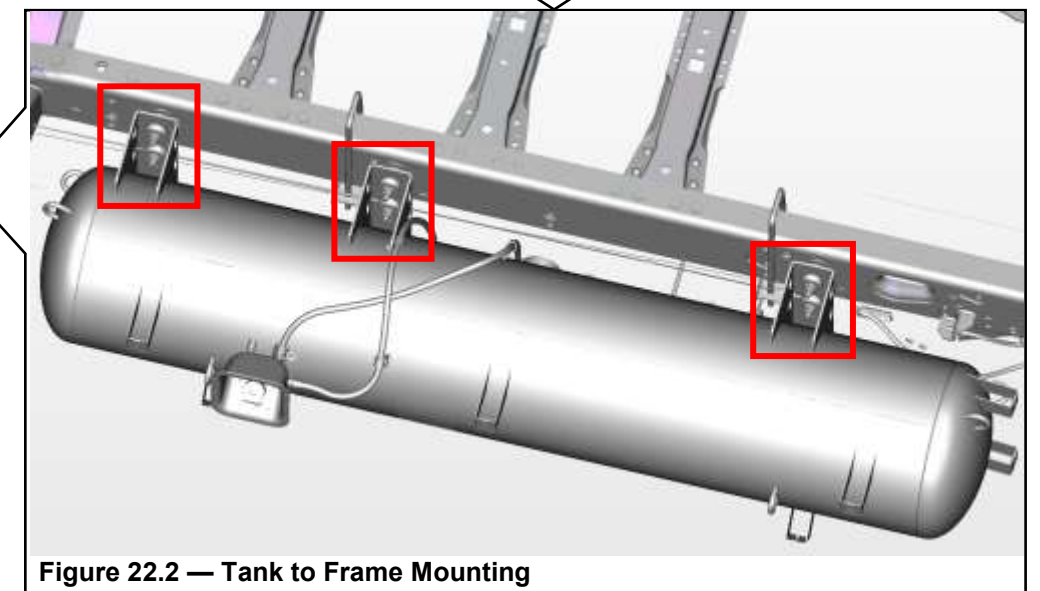

Figure 22.2 — Tank to Frame Mounting
2. Use a suitable lifting device and position the fuel tank to the left frame rail. Align the six mounting holes in the tank brackets with the mounting holes in the frame rail. **Figure 22.2**.
3. Carefully position the tank assembly to the frame rail until the tank (and hardware) is aligned with frame mounting holes. **Figure 22.2**.